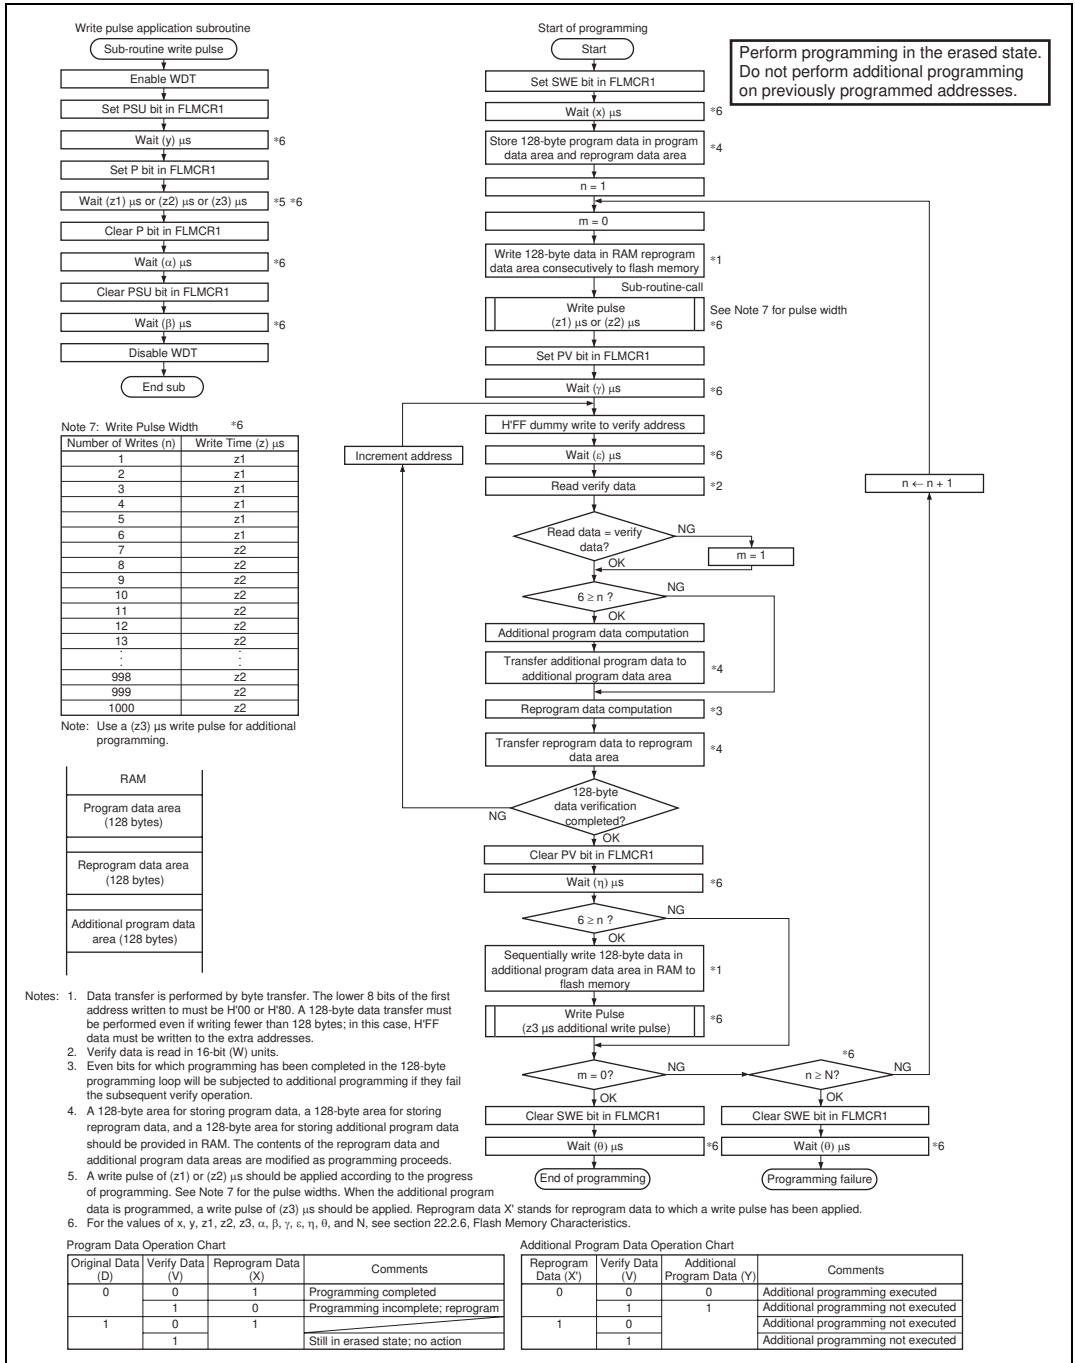

Figure 19.14 Program/Program-Verify Flowchart
Follow the procedure shown in the program/program-verify flowchart in figure 19.14 to write data or programs to flash memory. Performing program operations according to this flowchart will enable data or programs to be written to flash memory without subjecting the device to voltage stress or sacrificing program data reliability. Programming should be carried out 128 bytes at a time.
After the elapse of a given programming time, the programming mode is exited (the P bit in FLMCR1 is cleared to 0, then the PSU bit is cleared to 0 at least (α) μs later). Next, the watchdog timer is cleared after the elapse of (β) μs or more, and the operating mode is switched to program-verify mode by setting the PV bit in FLMCR1. Before reading in program-verify mode, a dummy write of H'FF data should be made to the addresses to be read. The dummy write should be executed after the elapse of (γ) μs or more. When the flash memory is read in this state (verify data is read in 16-bit units), the data at the latched address is read. Wait at least (ϵ) μs after the dummy write before performing this read operation. Next, the originally written data is compared with the verify data, and reprogram data is computed (see figure 19.14) and transferred to the reprogram data area. After 128 bytes of data have been verified, exit program-verify mode in FLMCR1 to 0, and wait again for at least (θ) μs . If reprogramming is necessary, set program mode again, and repeat the program/program-verify sequence as before. However, ensure that the program/program-verify sequence is not repeated more than (N) times on the same bits.